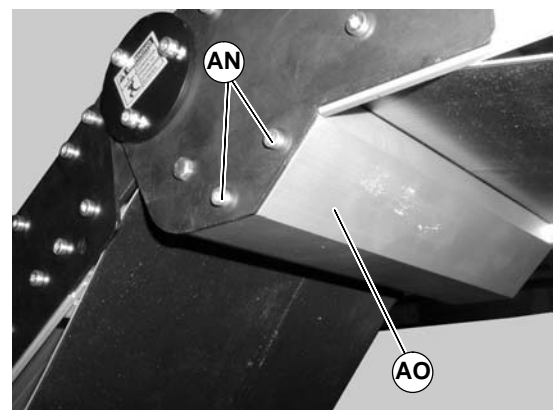

Figure 24
5. Remove screws (AN of Figure 24) on both sides of knuckle and remove guard (AO).